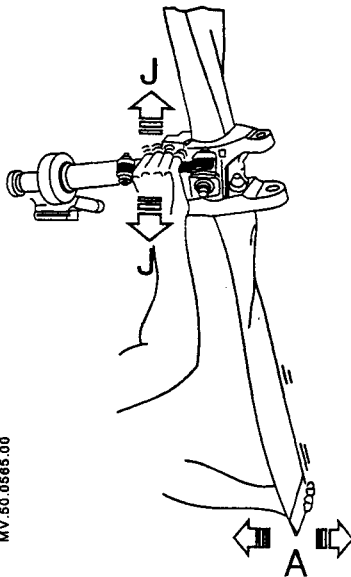

Figure 3
- . The absence of play (J) by twisting the blades back and forth, low amplitude movements (A). (Refer to Figure 3)